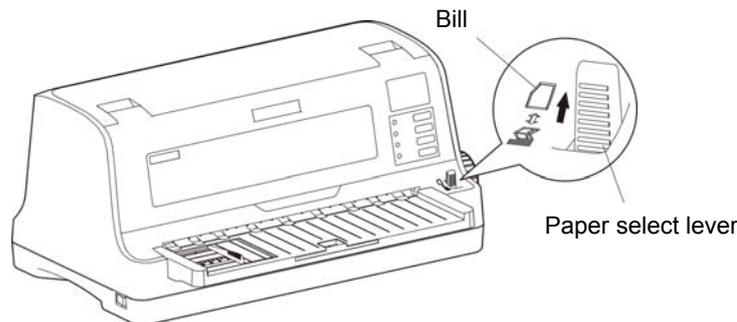

Figure 3-2 Set the paper feed position (bill)
1. Pull the paper select lever to the bill position (as shown in Figure 3-2).